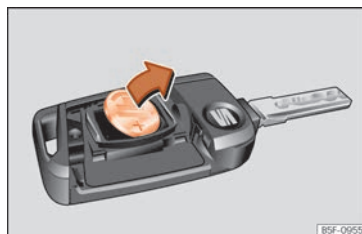

Fig.71 Vehicle key: removing the battery.
- Extract the battery from the compartment using a suitable thin object »» Fig. 71.
- Place the new battery in the compartment as shown »» Fig. 71, pressing in the opposite direction to that shown by the arrow »» ❷.